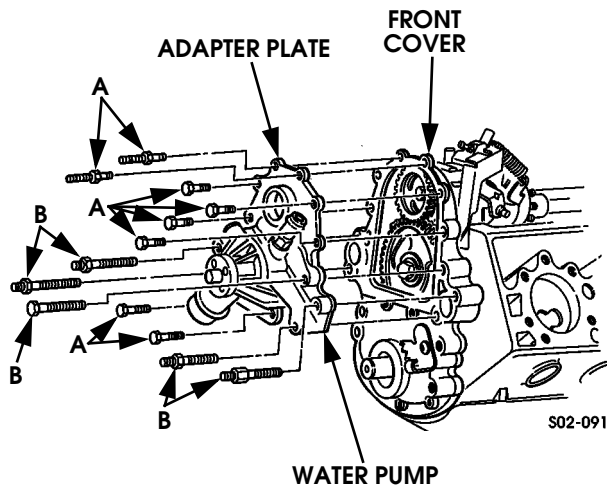

Figure 2-198: Adapter Plate and Water Pump Installation
3. Install adapter plate and water pump on front cover. Tighten all studs and short bolts marked A to 13-20 lb-ft (18-27 N•m). Tighten large studs and large bolt marked B to 25-37 lb -ft (34-50 N•m) (Figure 2-198).